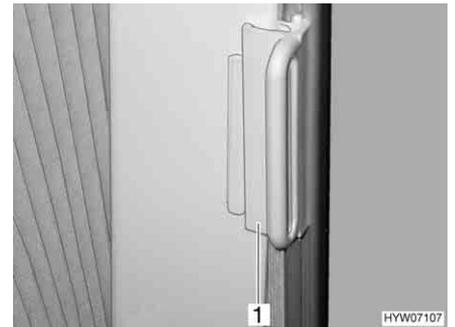

Fig. 36 Lock for Roman shade
- Push the handle (Fig. 36,1) onto the cap. The Roman shade is secured.